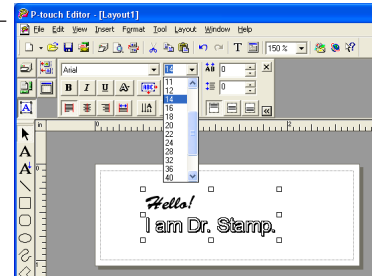

figure 8
- 3 From the "Size" drop-down list, select the desired character size (see figure 8).